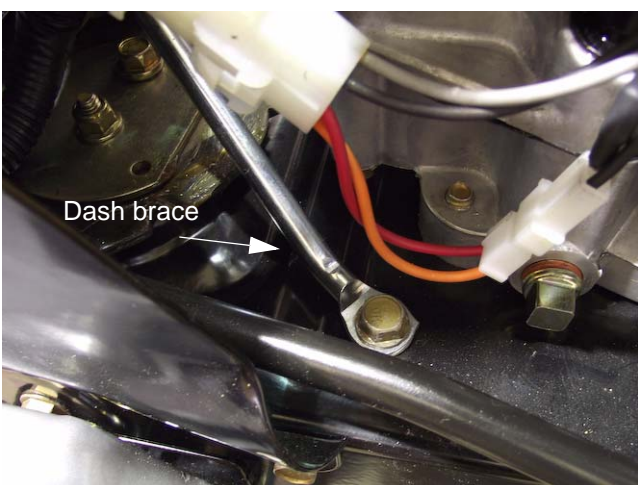

Figure 4.23
10. Remove the hex cap screw securing the lower portion of the dash brace rod to the frame. See Figure 4.23.